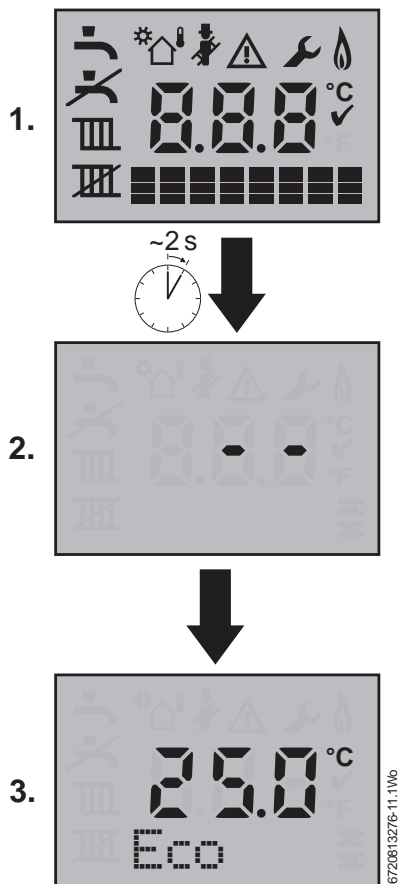

Fig. 53 Boiler start up screen
- ▶ Turn on the mains power supply, initially the “Boiler start up screens” will be displayed (refer to figure 53).